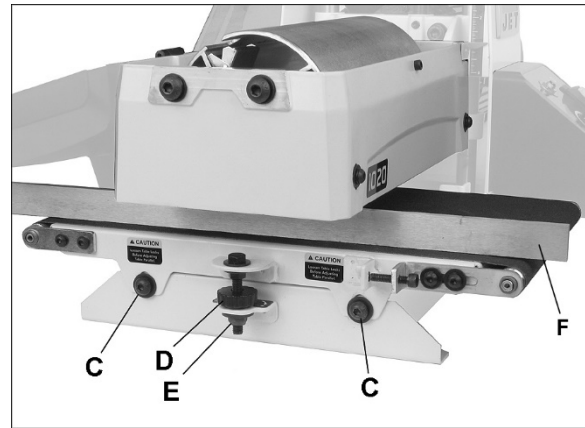

Figure 8-3: drum alignment
3. Position gauge (F, Figure 8-3) between drum and conveyor table at *outboard* side of drum.
1. Loosen both table locking screws (C, Figure 8-3) with 5mm hex wrench.
To e.g. *raise* outboard end of table, loosen lock nut (E, Figure 8-3) and rotate knurled nut (D, Figure 8-3) clockwise (+).